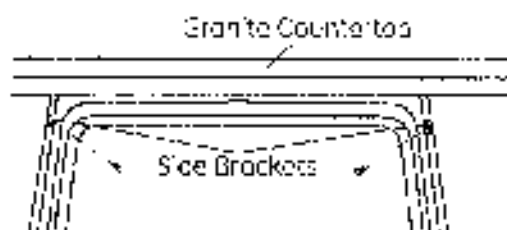

Figure 8
- Fasten the dishwasher to the adjacent cabinets with the 2 Phillips special-head screws provided. Refer to Figure 8. Make certain screws are driven straight and flush to prevent panel damage.